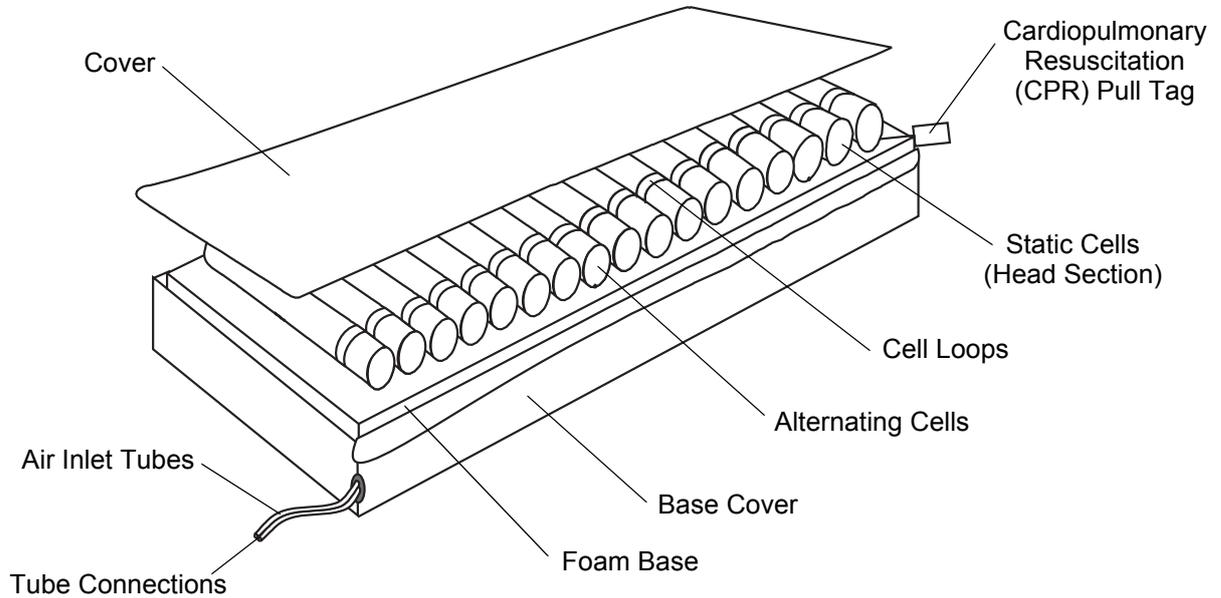

Figure 2 - Typical Mattress Replacement (MR) System
A typical mattress replacement (MR) system is shown in Figure 2. The MR systems are basically the same configuration as the OL systems with the addition of a foam base which replaces the normal bed mattress. The foam base provides a safety and transport function should the air supply fail or the alternating cells deflate. The cell configurations are detailed in Table 2.